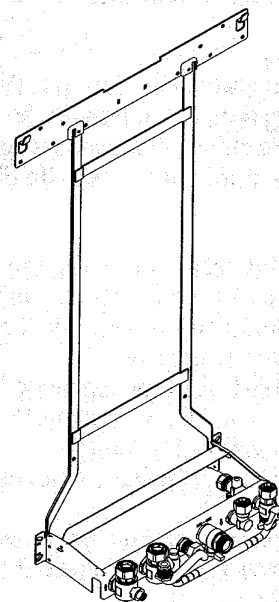

Fig. 6
- a) Identify the filling/inlet valve (found at the base of the appliance). See fig. 6 & 7.
- b) The 'filling loop' may have been disconnected from the filling/inlet valve; if so reconnect (fig. 6) unscrewing the caps as necessary.